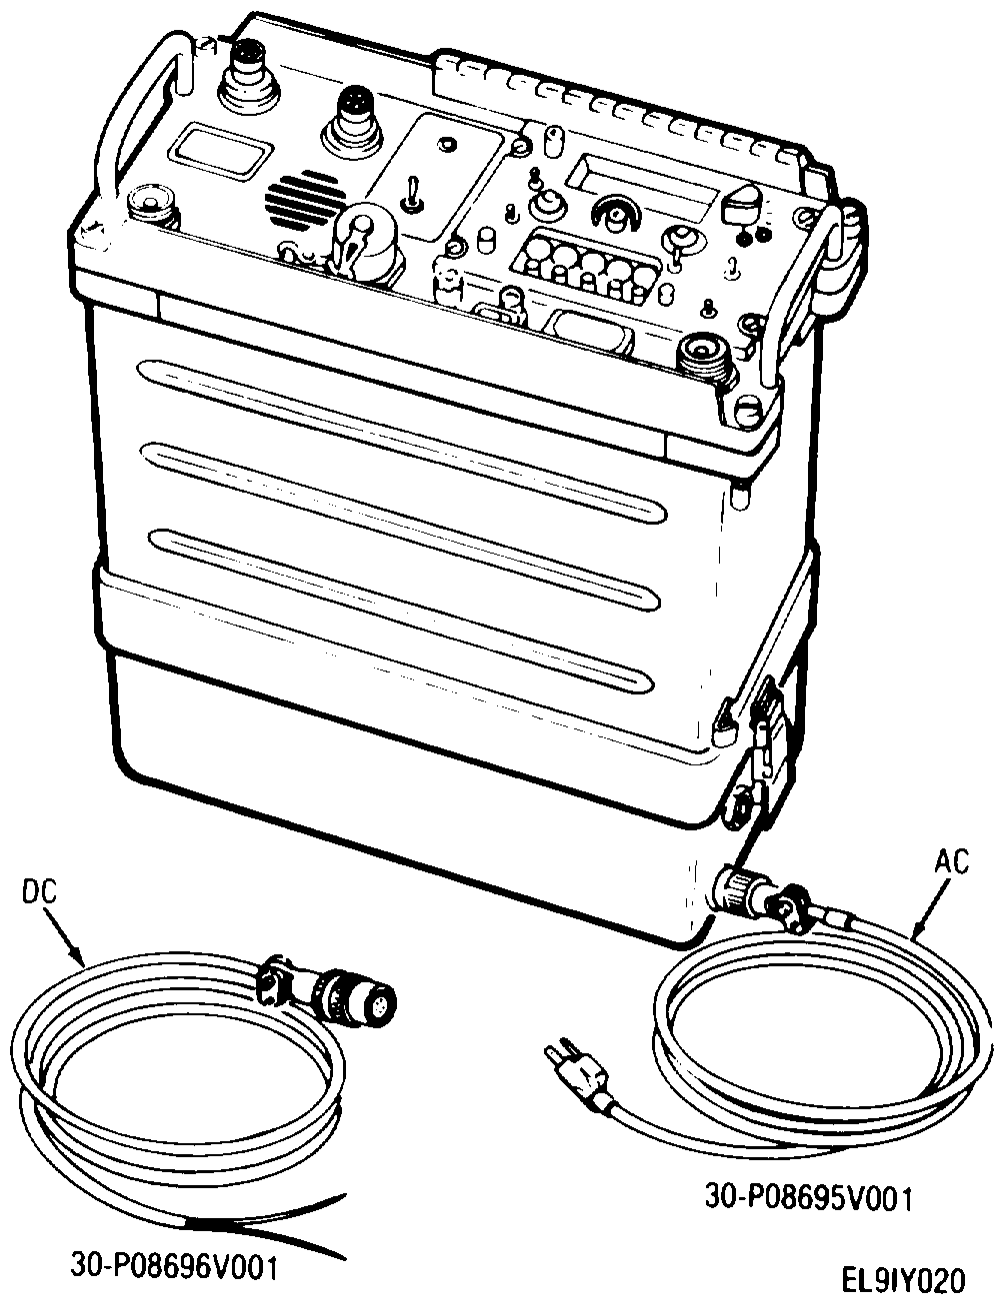

Figure 3-2. Battery Power Supply Charging Setup
- a. Connect the battery case power input terminal to a source of charging power as shown in Figure 3-2. Use the cable supplied with the battery power supply for this purpose.